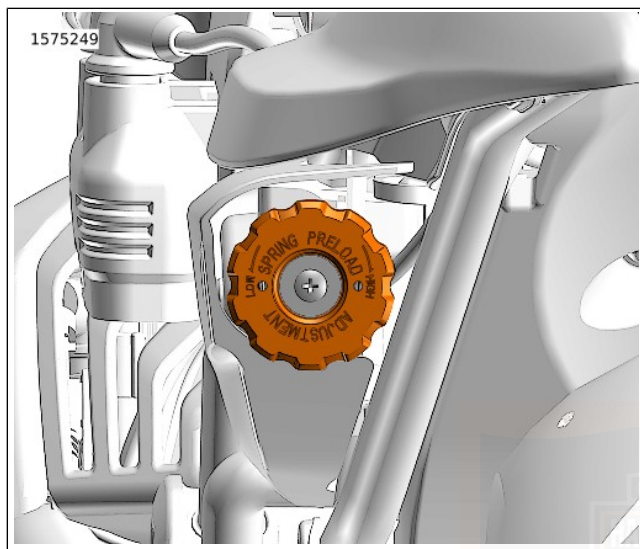

Figure 14. Preload Adjuster
1. See Figure 14. Rotate the preload adjuster knob clockwise in the HIGH direction to increase preload setting, or counterclockwise to decrease preload setting until desired setting is reached.
3. See Figure 14. Adjust preload adjuster knob to the desired number of clicks.